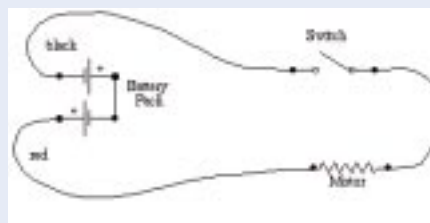

Figure 6. Circuit.
8. Wiring (Fig. 6): After the motor assembly has been safely glued in place, you can add a battery and a switch and then wire it up. Soldered electrical connections are recommended.